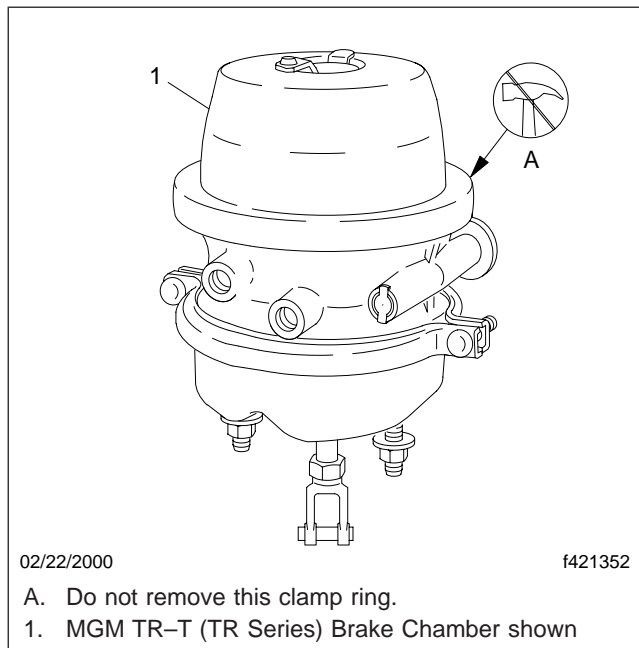

Fig. 11.12, Parking Brake Chamber Clamp
21. Inspect the air brake chamber and the air brake chamber pushrods. See Fig. 11.12.